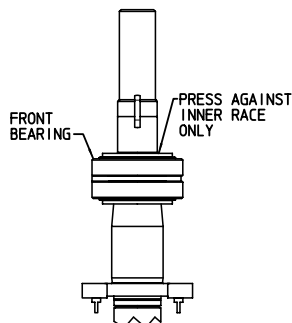

FIGURE 15
2. Place front bearing over shaft with shield side up. Press onto shaft until bearing is seated against shoulder. Place bearing spacer over shaft to seat on front bearing. See Figure 15.